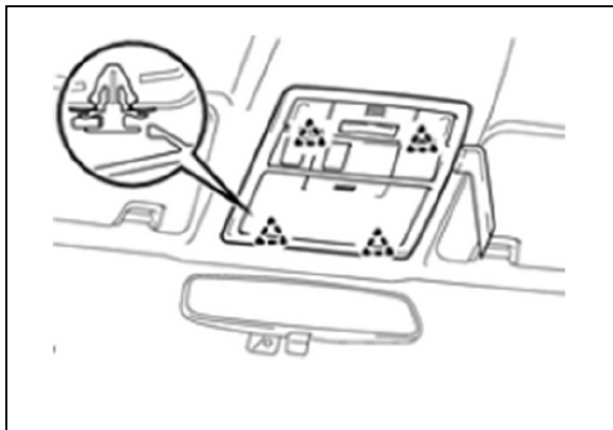

Figure 3
3. Using a nylon tool, disengage the 4 clips. Disconnect the connector. Remove map light assembly. See Figure 3.